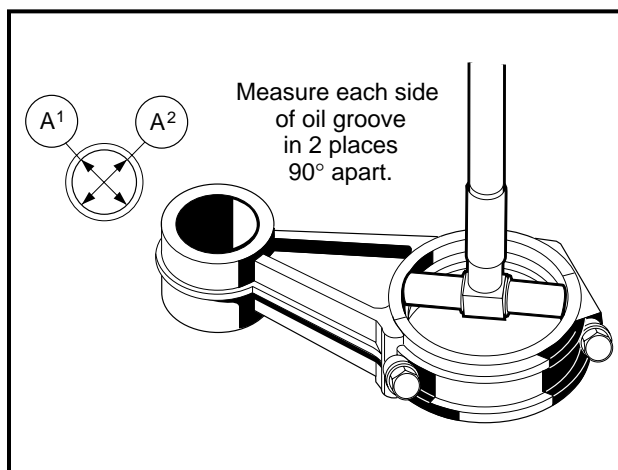

Figure 13-58 Measure I.D. of Large Bore
5. Using a telescoping gauge or an inside micrometer, measure the inside diameter of the large bore at several points along its length (**Figure 13-58, Page 13-29**).